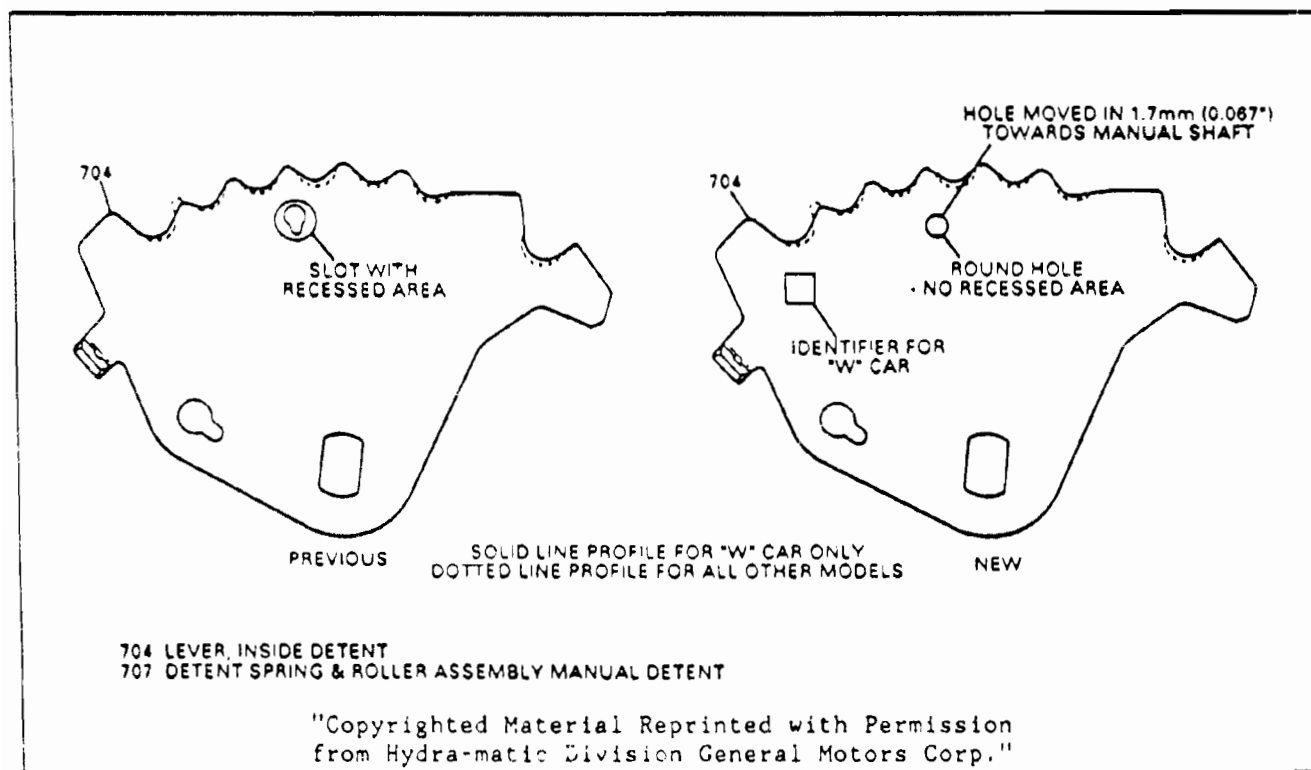

Figure 24
- (3) **NEW INSIDE DETENT LEVER** - Will have the manual link hole location changed to provide a different "Throw" of the manual valve, and the hole is now round instead of "Keyhole" shaped. Since the "W" car detent lever is different than all others, it will have square identification hole punched in it. The previous and new inside detent levers will not interchange. Refer to Figure 24 for I.D.